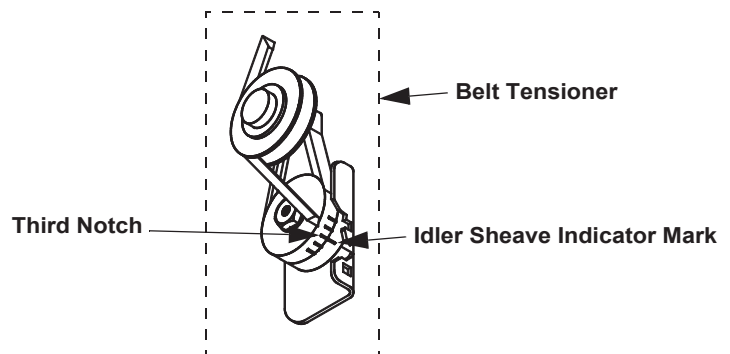

Figure 23. Idler Sheave Indicator Mark
- Check Belt Tension. The Belt should be tensioned just tight enough to minimize Belt slippage. Over tensioning the belt will cause premature Belt and Bearing wear. With a new Belt the Idler Sheave indicator mark should line up with the third notch in the Tensioner Housing (See Figure 23).